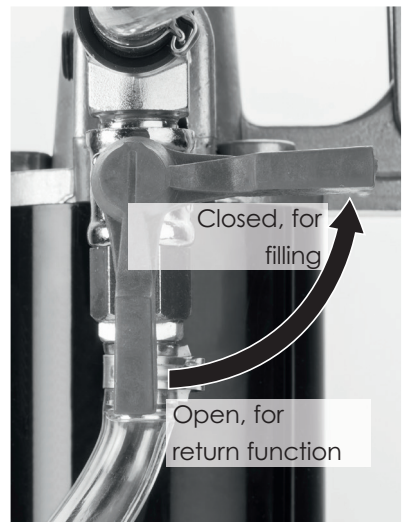

Figure 1
- Before filling the gearbox with oil, make sure that the shut-off valve of the return system is properly closed (see figure 1).
- If the necessary amount of oil is filled in, open the shut-off valve of the return system by turning it into vertical position and let the oil in the filling hose drip back into the container. Once the oil is completely led back into the container, close the return system by turning the shut-off valve into horizontal position (figure 1).